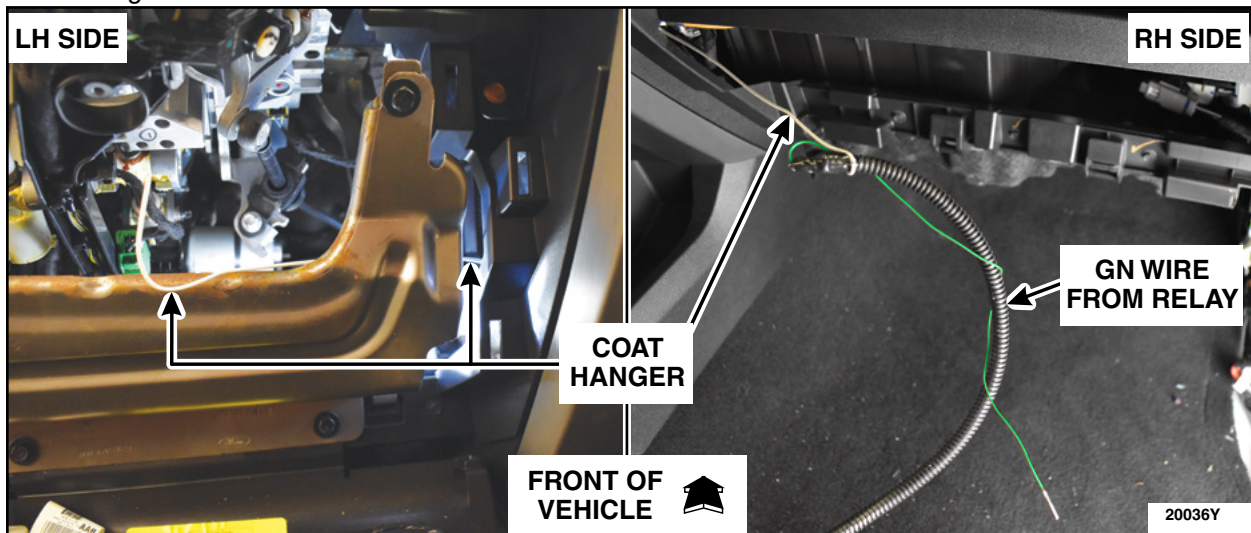

FIGURE 27
45. Using a coat hanger, route the Green (GN) wire from the relay through the instrument panel. See Figure 27.